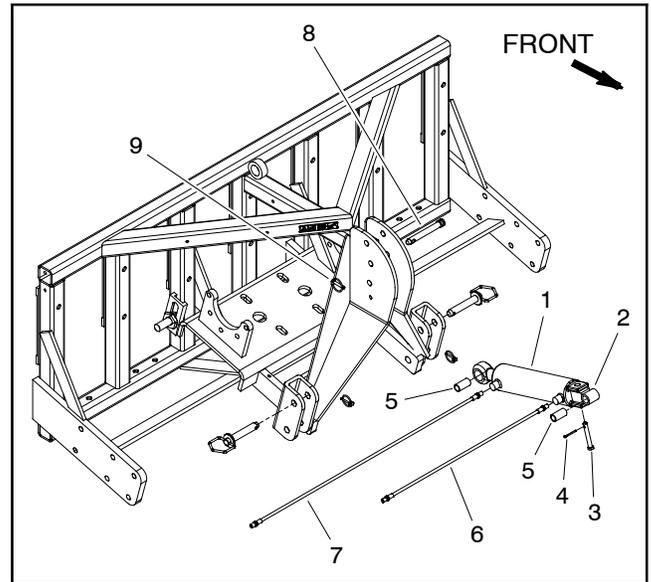

Figure 17
1. Remove hydraulic top link from aerator and tractor (Fig. 17).
2. Remove spacers (item 16) from cylinder shaft clevis and adapter on barrel end.
4. Remove two (2) cap screws that secure retainer plate to head. Position plate away from cylinder barrel to allow access to retaining ring (item 4).
6. Pull shaft so that head is at top of barrel. Position retainer plate to barrel and head. Secure retainer plate with two (2) cap screws.
7. Slide spacers (item 16) into cylinder shaft clevis and adapter on barrel end.
8. Install hydraulic top link to aerator and tractor (Fig. 17).